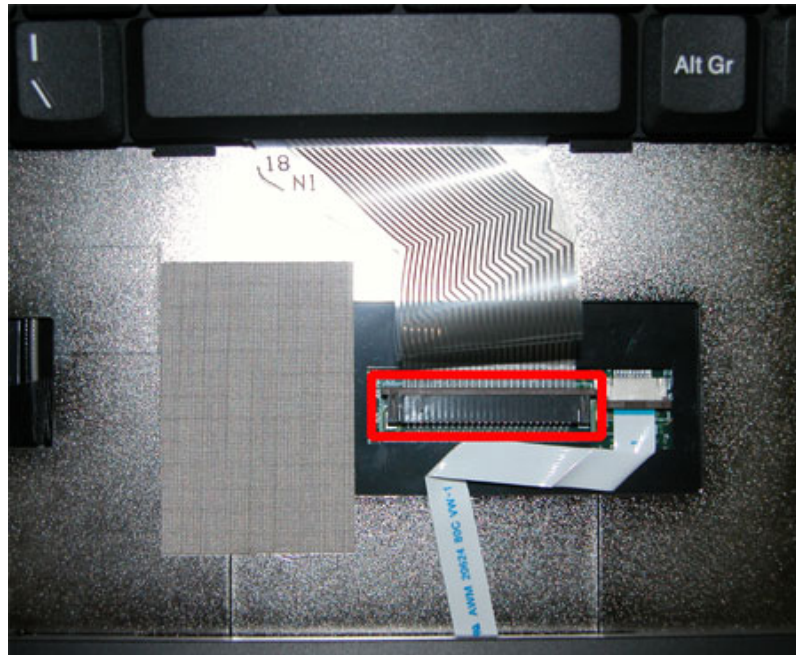

Fig. 16 Removing the keyboard flat cable
2. Lift up the keyboard and disconnect it from the system as shown in Fig. 16